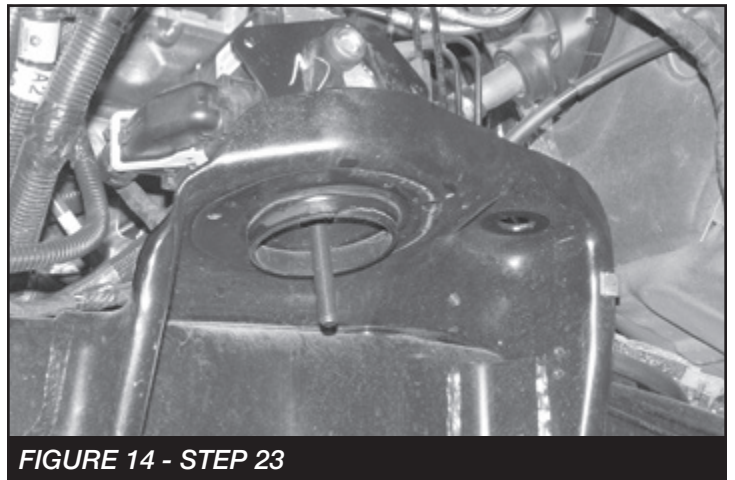

**FIGURE 12 - STEP 22**
22. Remove the bolts that attach the module to the mounting bracket on the top of the bucket. Retain hardware. **SEE FIGURE 12**